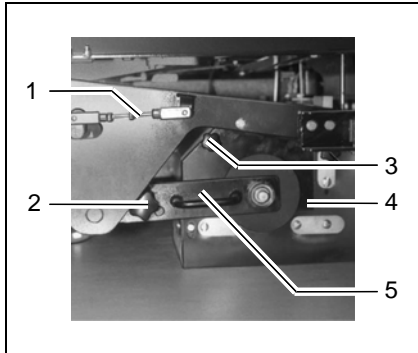

Fig. 40
5. Unscrew the knurled screw for the brush swing arm (Fig. 40/2).
6. Pull off the brush swing arm (Fig. 40/5).
7. Unscrew the knurled screw for the brush space cover (Fig. 40/3).
8. Remove the brush space cover (Fig. 40/4).